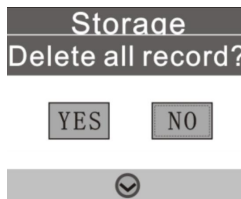

Fig 3-15 All Test Records Deletion
- Press < **OK** > key to confirm the selection and display the secondary confirmation for all test records deletion, as shown in figure 3.15.